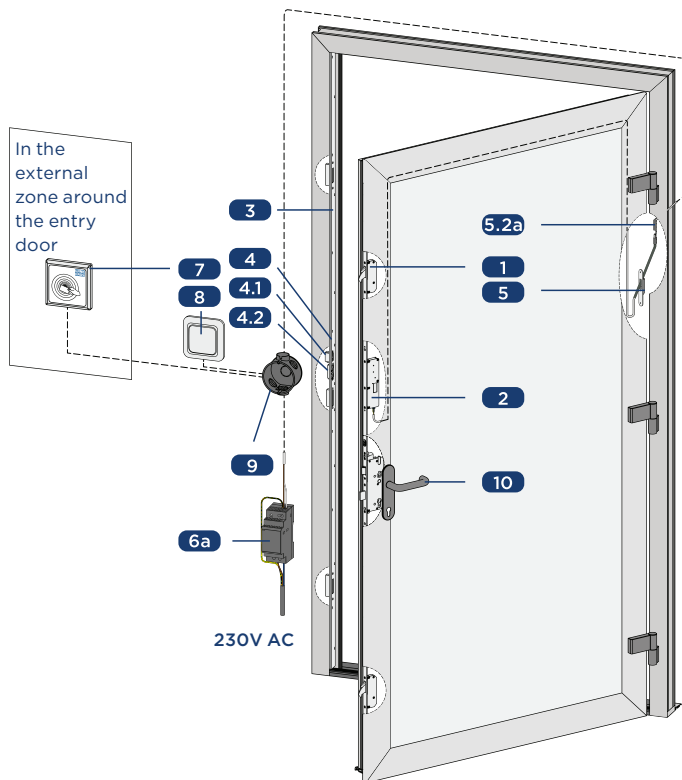

Figure 2-1: blueMatic EAV with accessories and external power supply
5.2a	Figure 2-1: T-KÜ-T1 RT KABEL 4M including cable 4 m for connection of external access controls, e.g. intercom, potential-free contact
6a	Figure 2-1: Power supply T-HT NETZTEIL 12V DC / 2A mounting on DIN rail